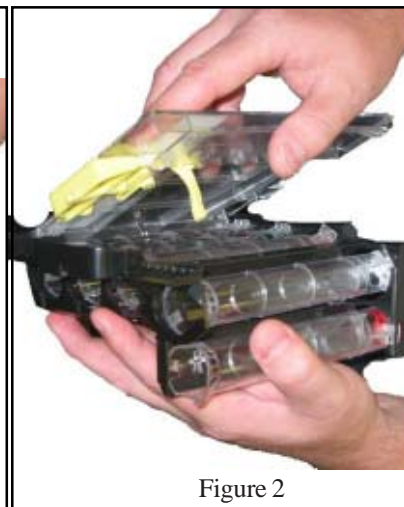

Figure 2
- 2) Lift up the left side of the cassette fascia ( as shown in figure 2) and remove.